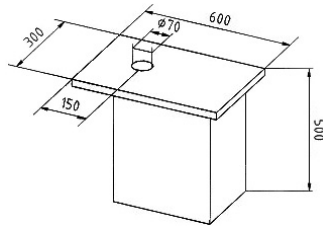

Figure 1
- ① Working conditions of the tester:
- ◆ After unpacking, the tester shall be placed on a stable bench with levelness deviation less than 1 mm/m. A hole shall be drilled at an appropriate location on the bench (see figure 1) to enable the lifting screw to operate properly.